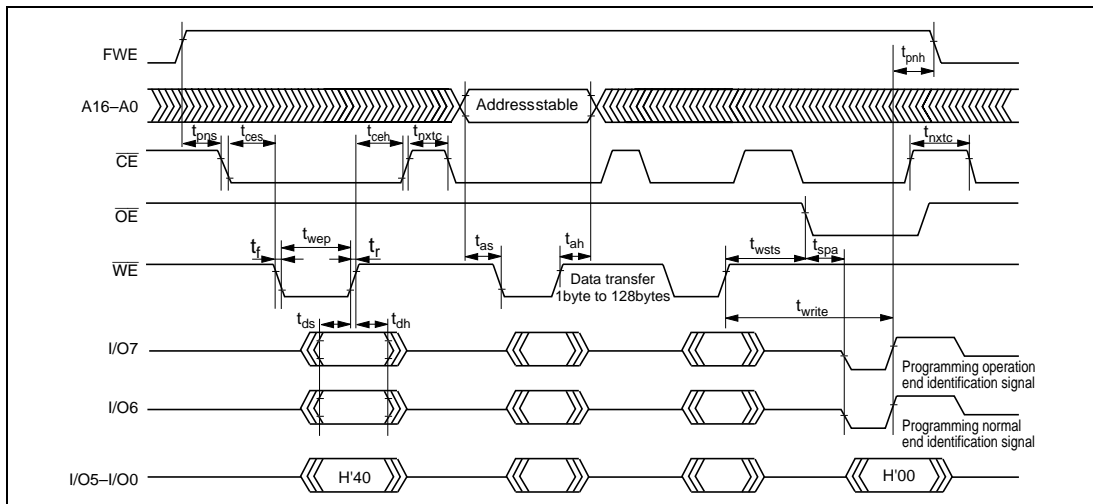

Figure 15.20 Auto-Program Mode Timing Waveforms
- Memory address transfer is performed in the second cycle (figure 15.20). Do not perform transfer after the second cycle.